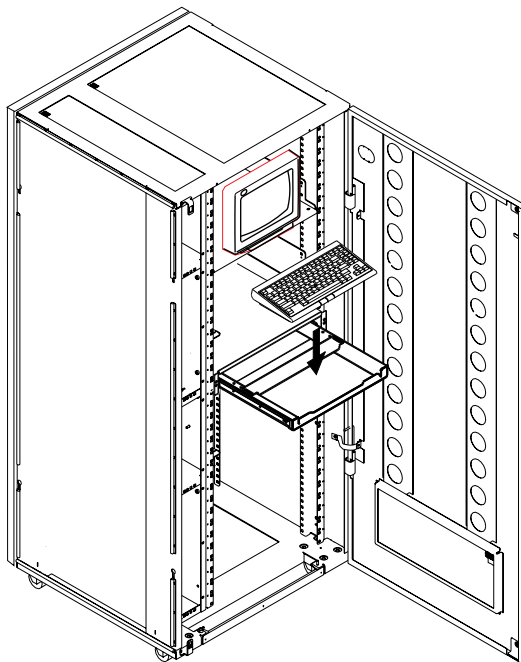

Figure 1-37. Installing the Keyboard
15. ____ Open the drawer and install the keyboard as shown in Figure 1-37.